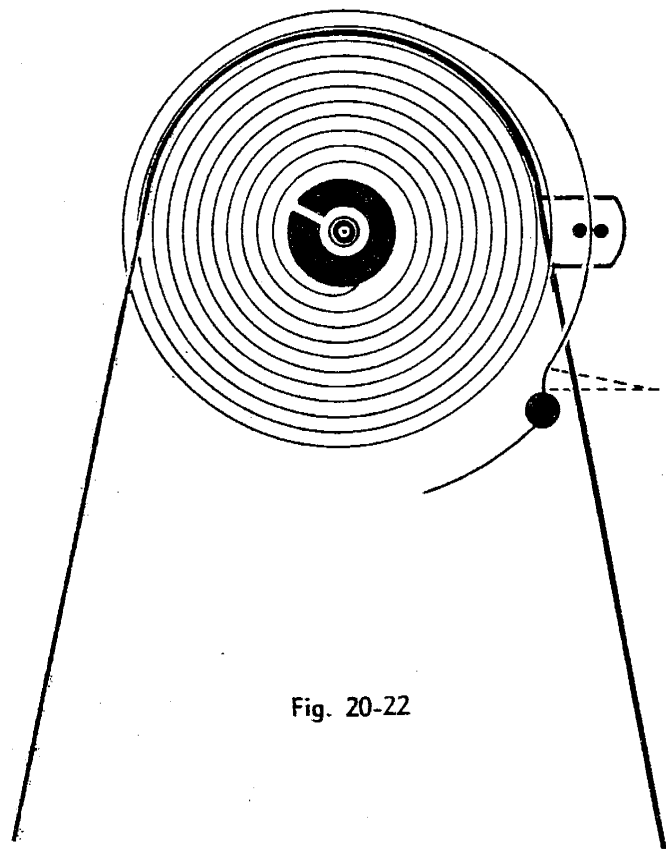

Fig. 20-22
6. After circling, place the stud in position and tighten the stud screw. The outside coil may or may not fall between the regulator pins. Since you have already circled it properly, you have only to make a bend close to the stud to bring the coil between the regulator pins. Now see if the center of the collet is directly over the hole in the balance jewel. If not, make another bend near the stud to bring the collet directly over the center of the balance jewel. This is shown by the dotted lines in figure 20-22.